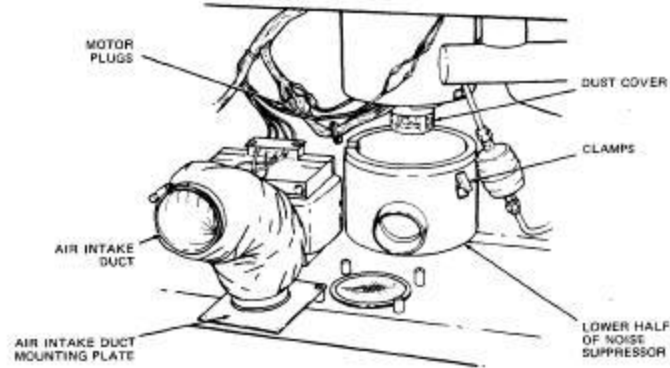

Figure 11-3. Location of Motor Plugs and Noise Suppressor
4. Disconnect 3 motor plugs P/J 31, 104, and 119 from main harness. Figure 11-3.
5. Remove the lower half of noise suppressor. Figure 11-3, as follows.